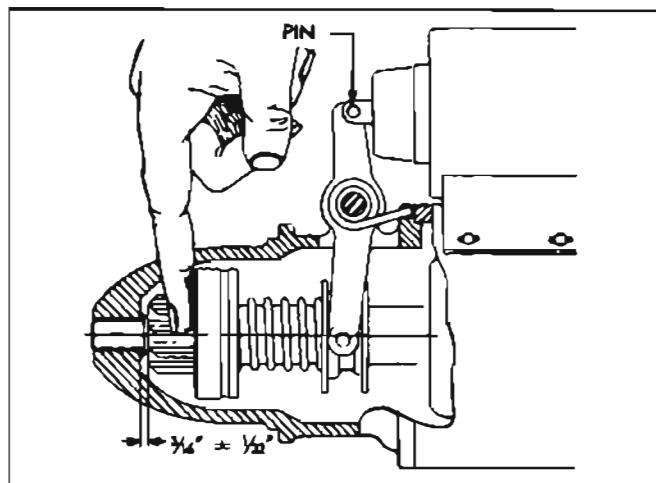

Figure 10-52—Checking Pinion Clearance
3. Press finger lightly against outer side of drive assembly shell to take out all lash in shift linkage, but without compressing the clutch spring. Measure clearance between end of pinion and machined surface on drive housing. Clearance should be $\frac{3}{16}'' \pm \frac{1}{32}''$. See figure 10-52.